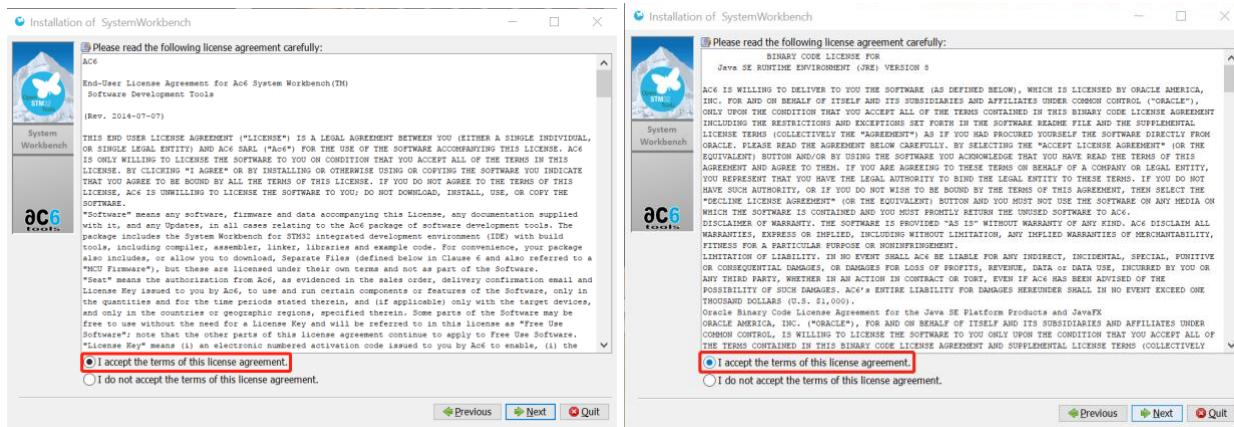

Figure 4: Agree the license agreement for System WorkBench.
- Click on Next to continue. Accept all the license agreement and click next to continue as Figure 4.